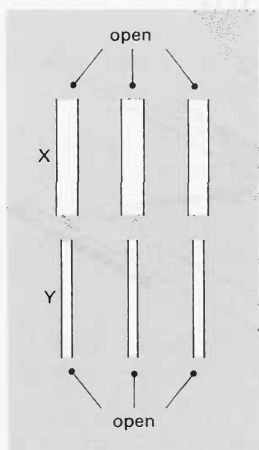

Figure J131
- 34(R)** Figure J131 shows three slits from each of two diffraction gratings X and Y. The open slits of grating X are twice as wide as those of grating Y, otherwise the gratings are identical. Both gratings have the same slit spacing and the same large number of slits.